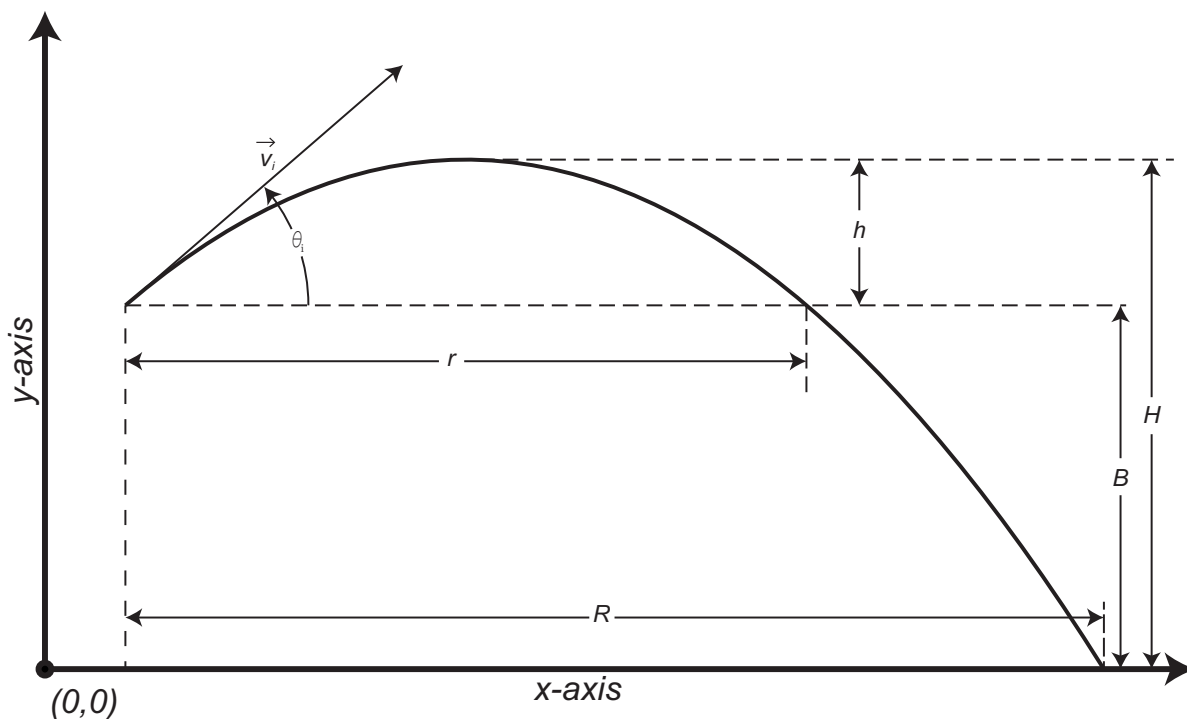

Figure 1: A diagram representing the trajectory of a projectile and different parameters associated with this kind of motion.
2. Referring to Figure 1, write down the relations for range R , height of projectile H and time of flight t_f in terms of the angle of launch, θ_i , and the launch velocity, \vec{v}_i .